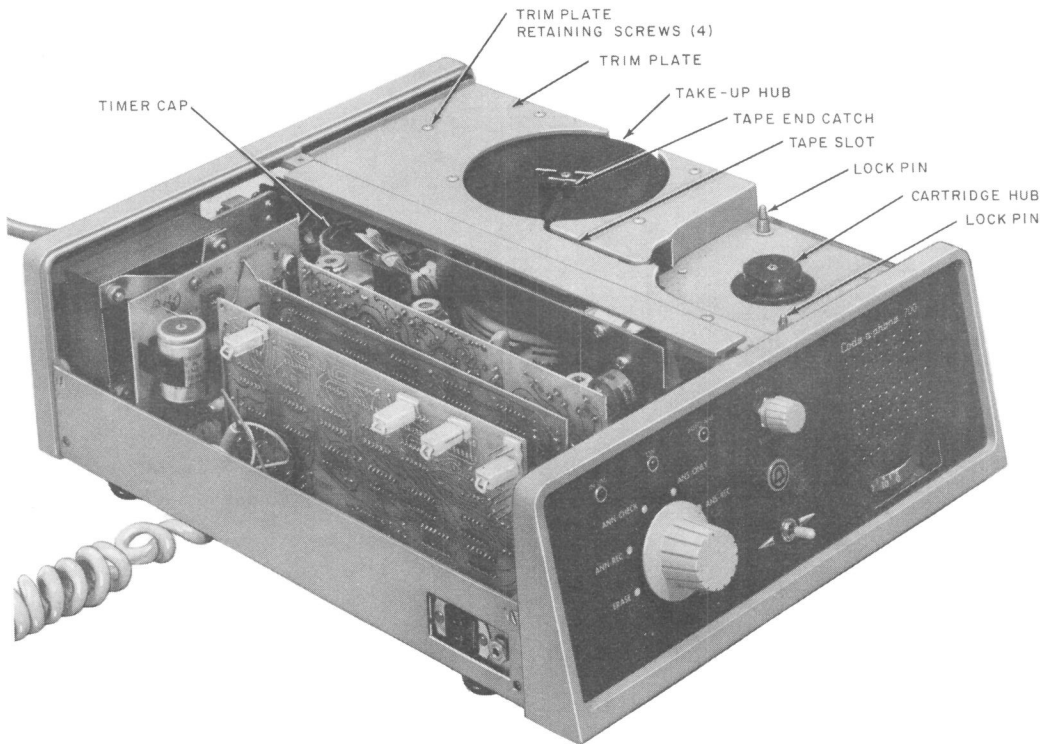
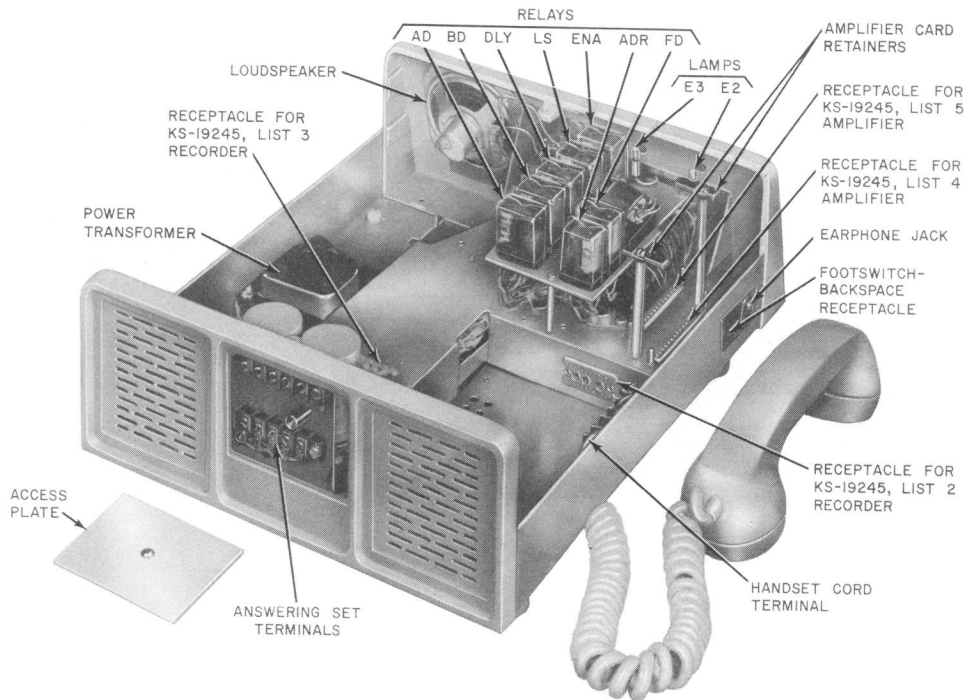

Fig. 25—KS-19245, List 1 (MD) Telephone Answering Set—Cover and Components Removed
Fig. 26—KS-19245, List 13, (MD) 24 (MD), or 26 Telephone Answering Set—Cover Removed
- (1) Set function selector to OFF.
- (2) Place cartridge (Fig. 10) over cartridge lock pins and hub (Fig. 26) and press down into place.
- (3) Slide tape end (Fig. 10) through tape slot (Fig. 26) and into slot of take-up reel and lock into place. Make certain, by listening for a snap, that both the left and right sides of the tape end are locked in place.
**4.14** Remove cartridge as follows (Fig. 26).
- (2) **List 1 telephone answering set only:**
- (a) Loosen amplifier board retainers (2) (Fig. 25)
- (3) **Lists 13 (MD), 24 (MD), and 26 telephone answering sets only:**
- (a) Remove the four trimplate retaining screws (Fig. 26)